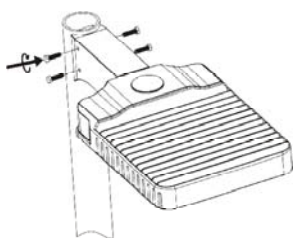

FIG.4
- Tighten the four M8 screws on the straight arm and secure it to the adapter (see **FIG.4**).